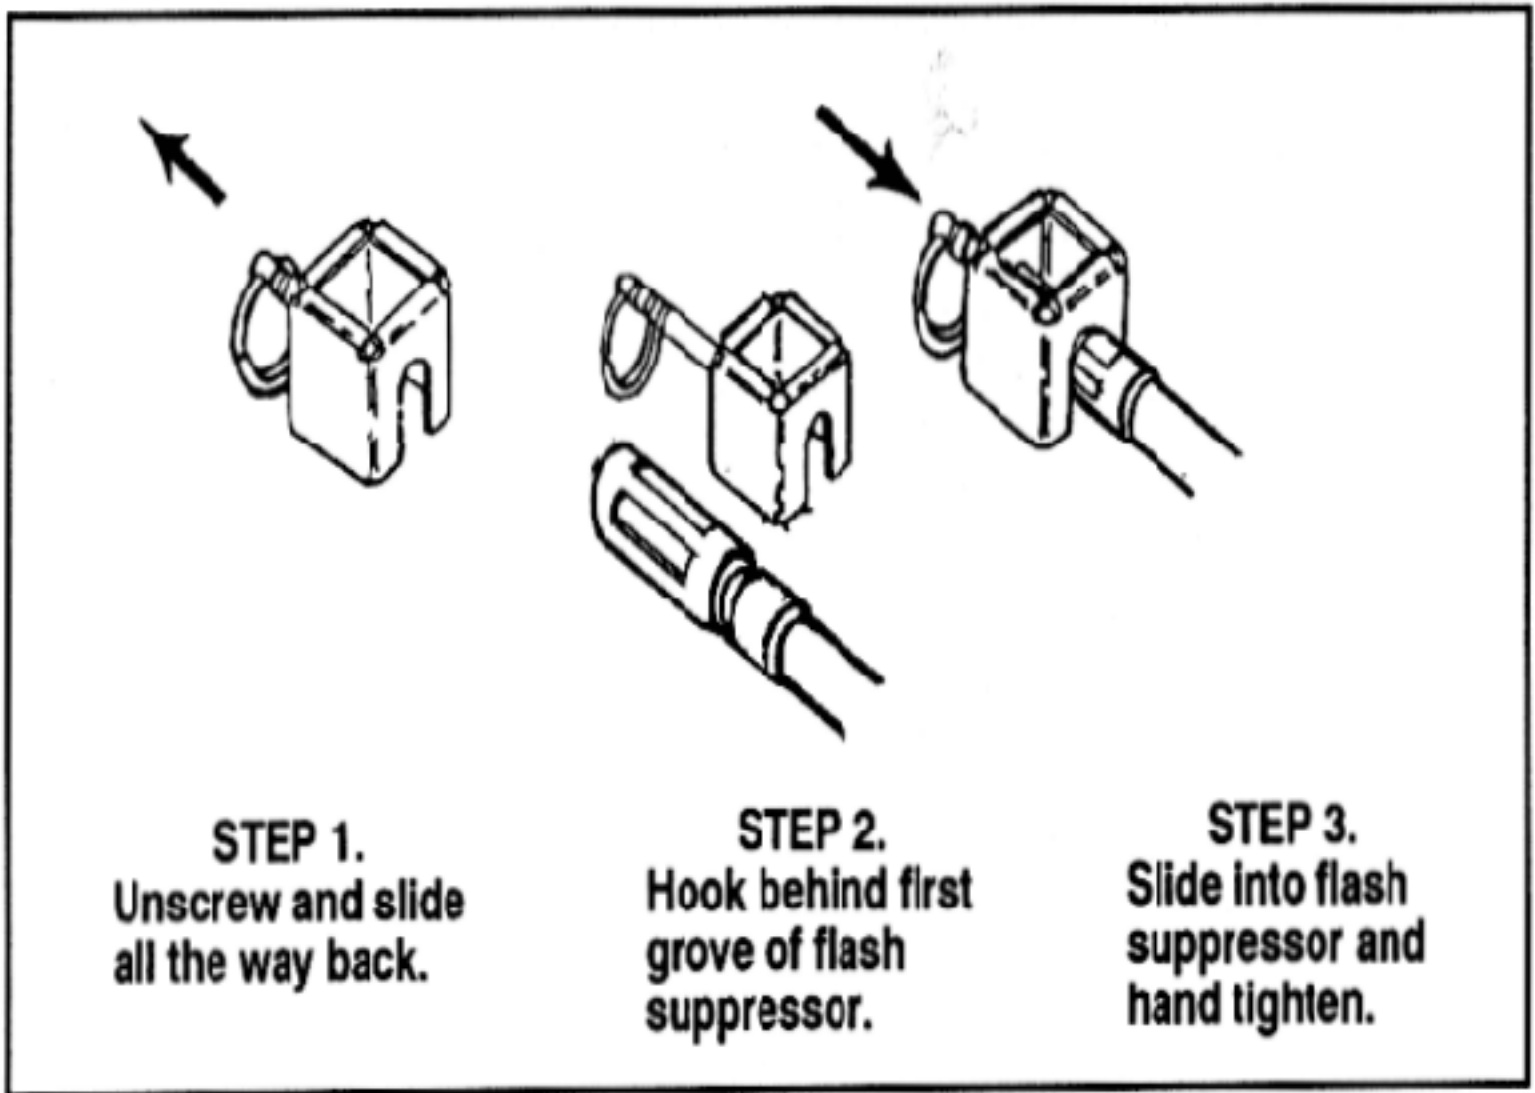

Figure 1-7. M15A2 BFA.
- a. **Installation.** The BFA is attached to the M249 AR by using the three steps in Figure 1-7.
Figure 1-7. M15A2 BFA.